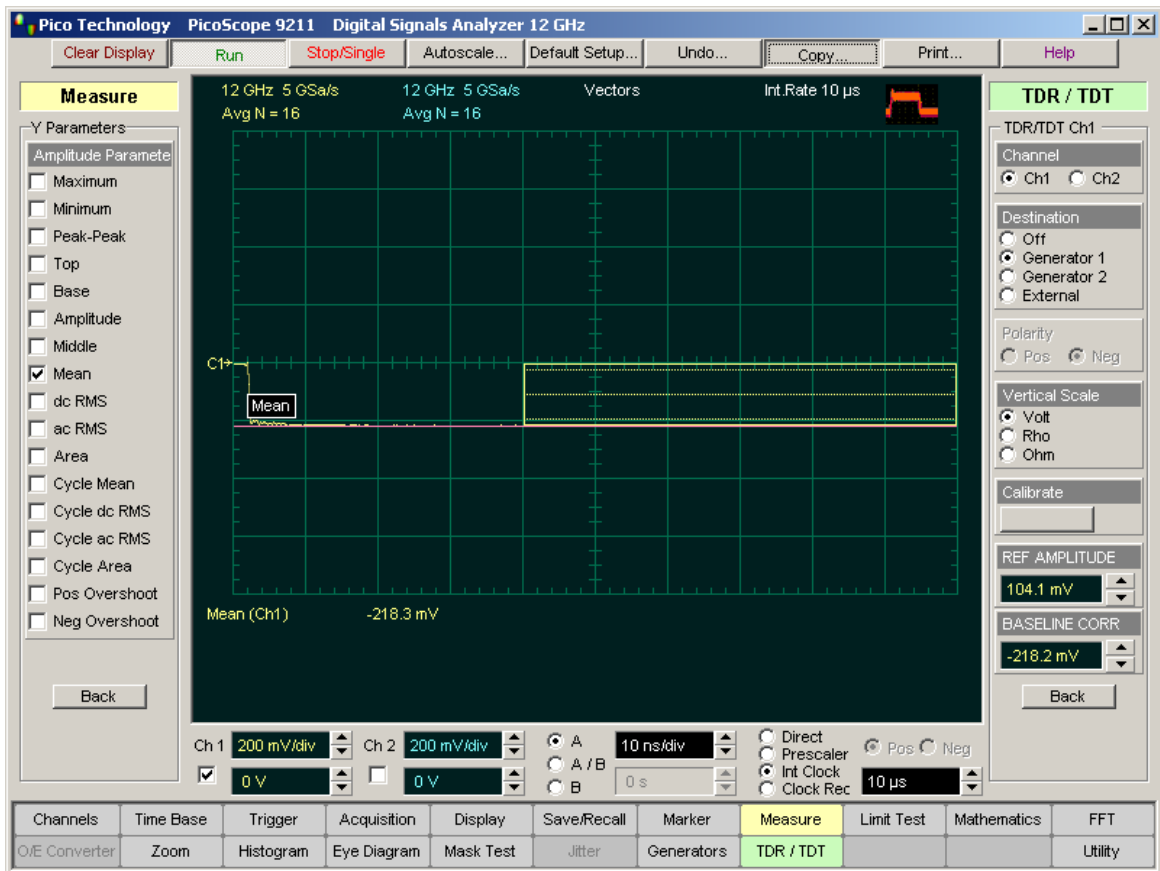

Figure 2
8. Connect the 50-ohm termination to the Reference Plane. See Figure 2. Write the mean value V50. It is equal to -218.3 mV. See Figure 2.